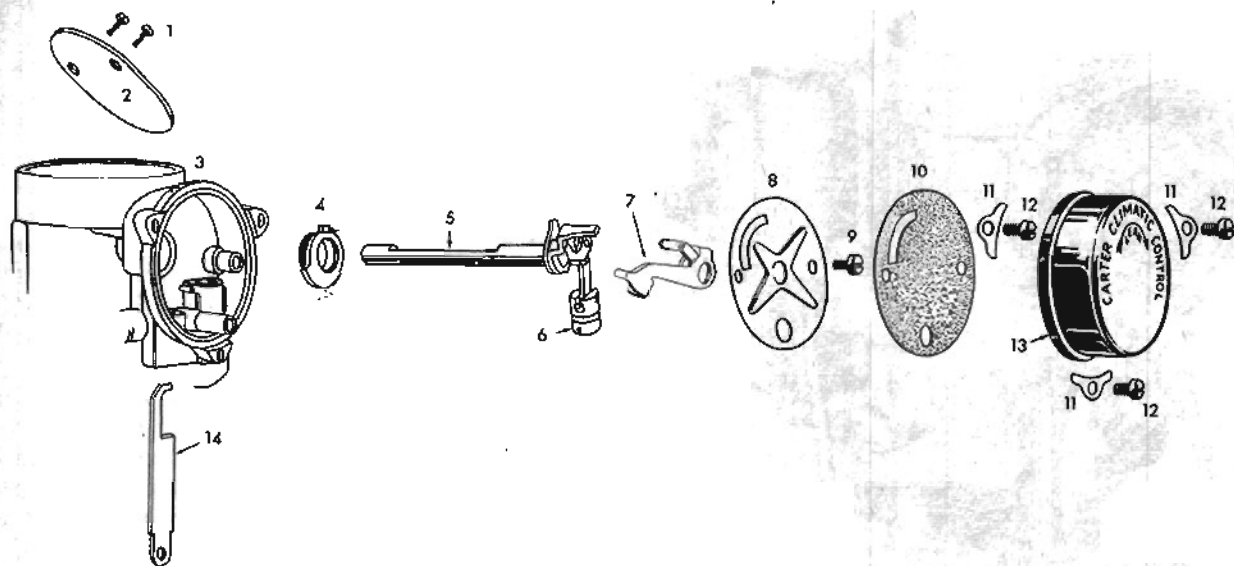

FIG. 28
Climatic Control—Remove the climatic control housing (13, Fig. 28) with thermostat and gasket (10). Remove the screw (9) which holds the baffle plate to the housing and remove the baffle plate (8), choke trip lever (7), and fast idle link (14).